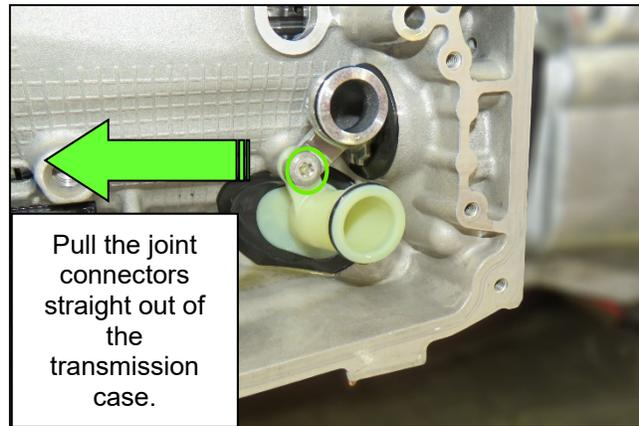

Figure 7
8. Remove the joint connector bolt and both the metal and plastic joint connectors from the transmission case (Figure 7).